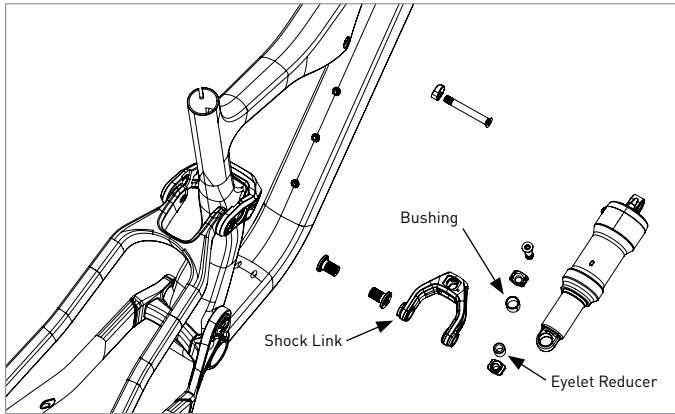

Figure 4: Removal of Eyelet Reducer and Bushing
6. Removal of the stainless-steel bushing (Figure 4) from the shock requires a bushing removal tool. A local bike shop with a suspension service department should have one and be able to remove the bushing.